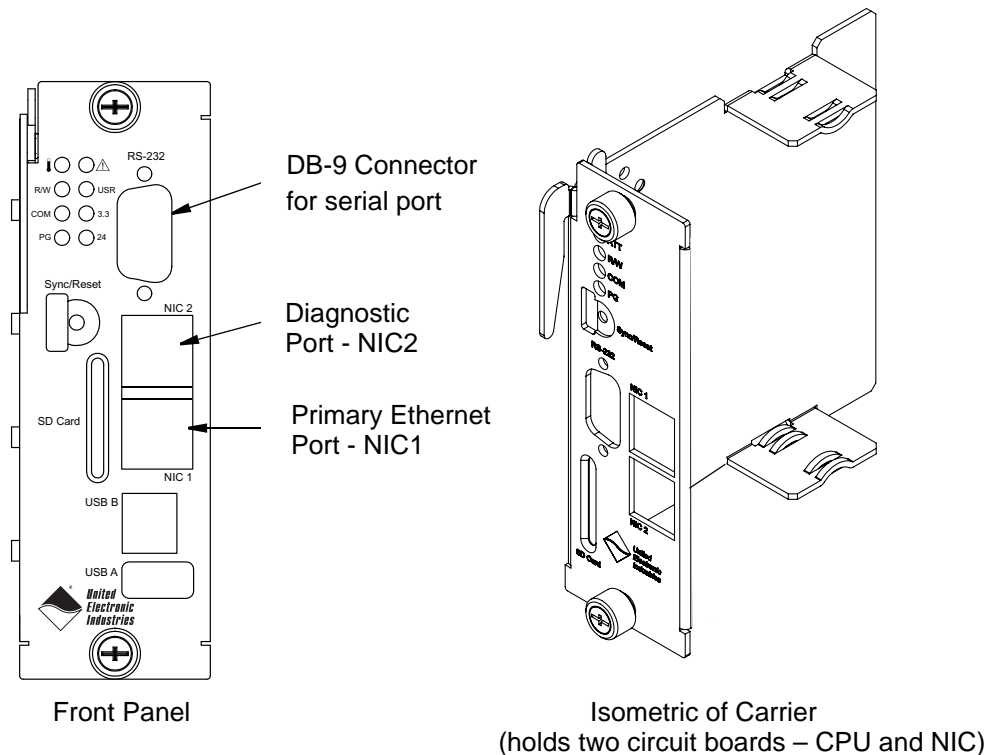

Figure 4-17. DNR-X-1G NIC/CPU Core Module and Carrier
- Align PCB board LEDs, RESET button, and sync port with openings on carrier: Be sure the RESET button is free to move. (See **Figure 4-17** for location)